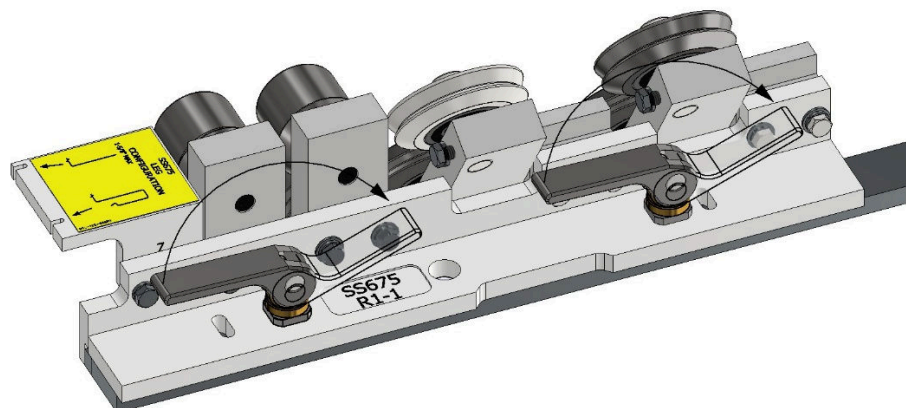
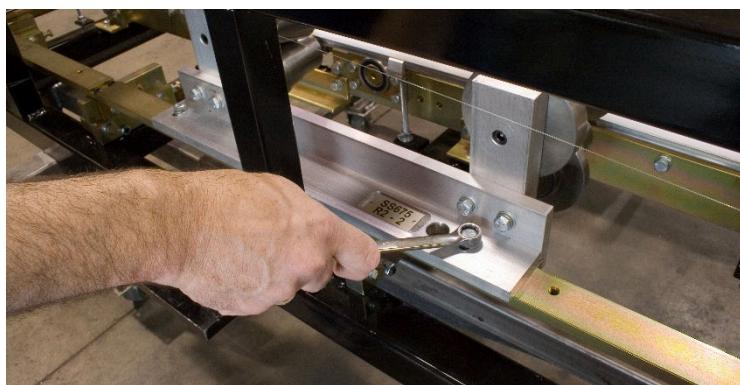

Figure 58: Removing QWIKSwap™ Tooling Rails
Figure 59: Removing Legacy Tooling Rails
2. Starting at the entry end of the machine, remove the first tooling rail by lifting the clamp levers as shown in Figure 58. Then slide it towards the entry end and remove it carefully. Repeat this process for the remaining tooling rails working from entry end to exit end. Store them in a safe place. *For legacy tooling rails without the levers, use a ½" wrench to remove the bolts. (Figure 59).* Note: the **SS100**, **SS150**, **SS450/450SL**, and **BP** profiles all share the same left-side rollers, so when changing between these profiles, only the right-side Tooling Rails will need to be removed. Likewise, the **FF100** and **FF150** profiles also share the same left-side rollers, so when changing between these profiles, only the right-side Tooling Rails will need to be removed.